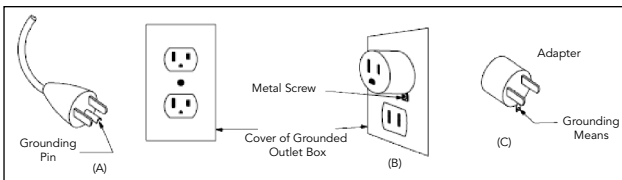

Figure 65.1
25. This product is for use on 120 volt electrical outlets. The cord has a plug as shown at A in Figure 65.1. An adapter, as shown at C, can be used to connect three-blade grounding-type plugs to two-slot receptacles (it is not included with your product). The green grounding lug extending from the adapter must be connected to a permanent ground such as a properly grounded outlet box. An adapter should not be used if a three-slot grounded receptacle is available. *NOTE: A TWO-PRONG ADAPTOR IS NOT INCLUDED WITH THIS PRODUCT.